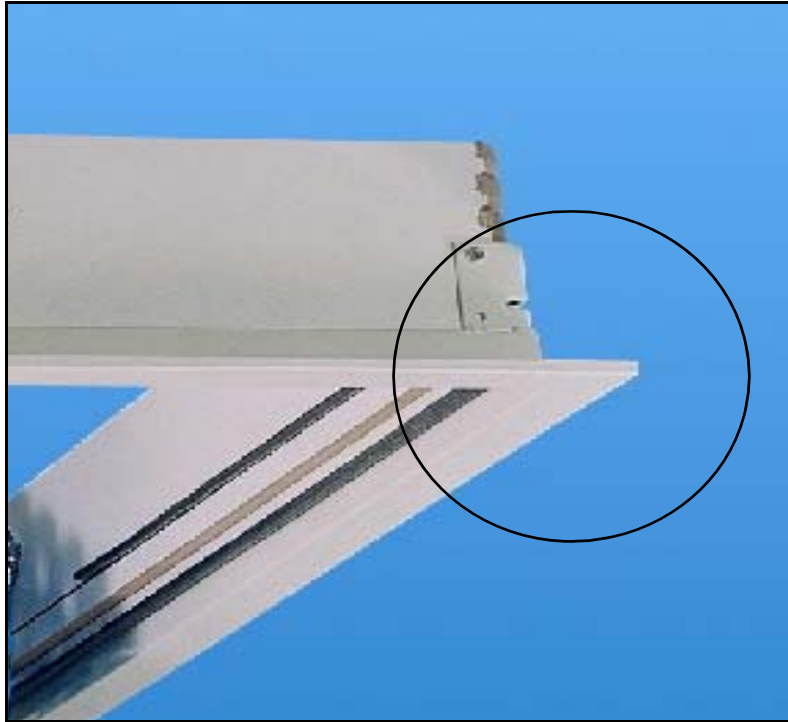

Figure 3
1. Mark out the rough opening size for your unit according to TABLE A. **Note that the finished metal trim extends about 2" beyond the rough opening when the unit is installed (Figure 3). Allow clearance for this on all four sides.**